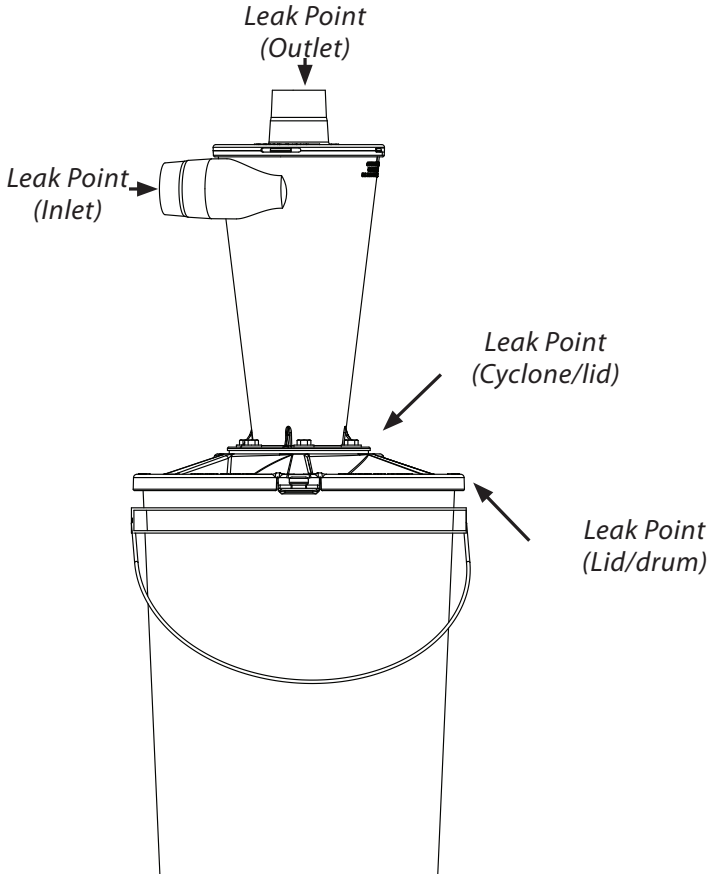

FIG. 11
**11** Make sure there are no air leaks at the connections. Review [FIG. 11] for common leak points.